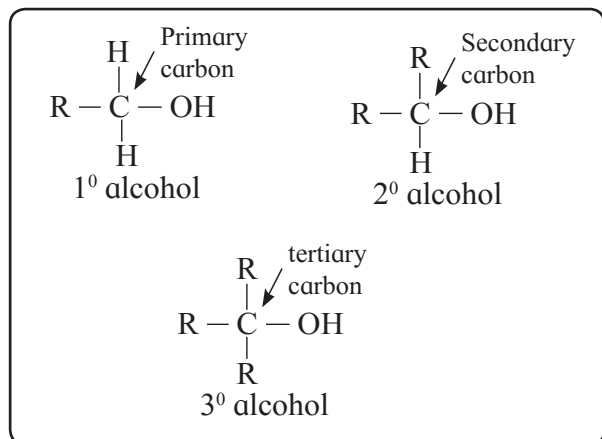

Fig. 11.1 : Primary, secondary and tertiary alcohols
a. Alcohols containing $\text{sp}^3\text{C} - \text{OH}$ bond : In these alcohols -OH group is attached to a sp^3 hybridised carbon atom of alkyl group. These alcohols are further classified as primary (1°), secondary (2°) and tertiary (3°) alcohols in which -OH group is attached to primary, secondary and tertiary carbon atom respectively. (see Fig. 11.1), also refer to Std. XI Chemistry Textbook Chapter 14, sec. 14.3.2)